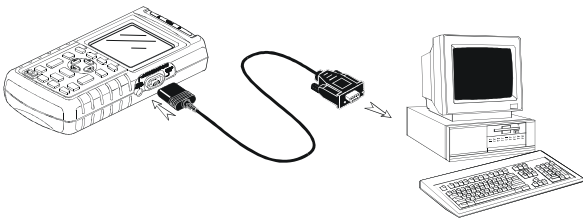

Figure 1-24. Connecting a Computer
- Use the Optically Isolated RS-232 Adapter/Cable (PM9080) to connect a computer to the OPTICAL PORT of the test tool. See Figure 1-24.